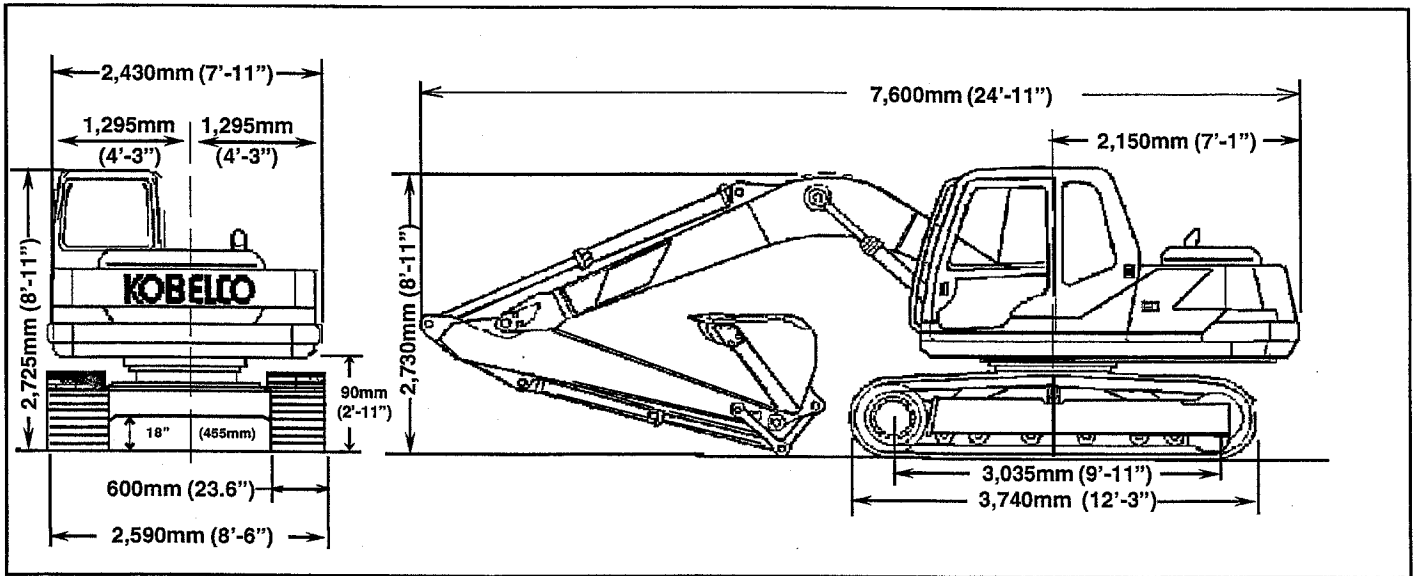

FIGURE 5.1
A. MACHINE DIMENSIONS- Figure 5.1